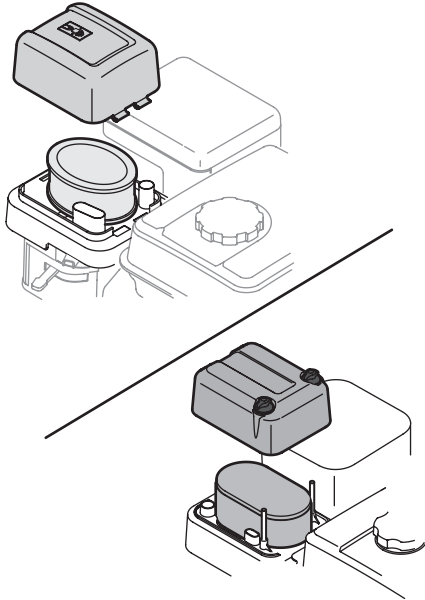

Figure 6-5
1. Press the tab on the air filter cover and lift the cover, or un-thread the thumbscrews, depending on the model of engine you have. See "Figure 6-5".